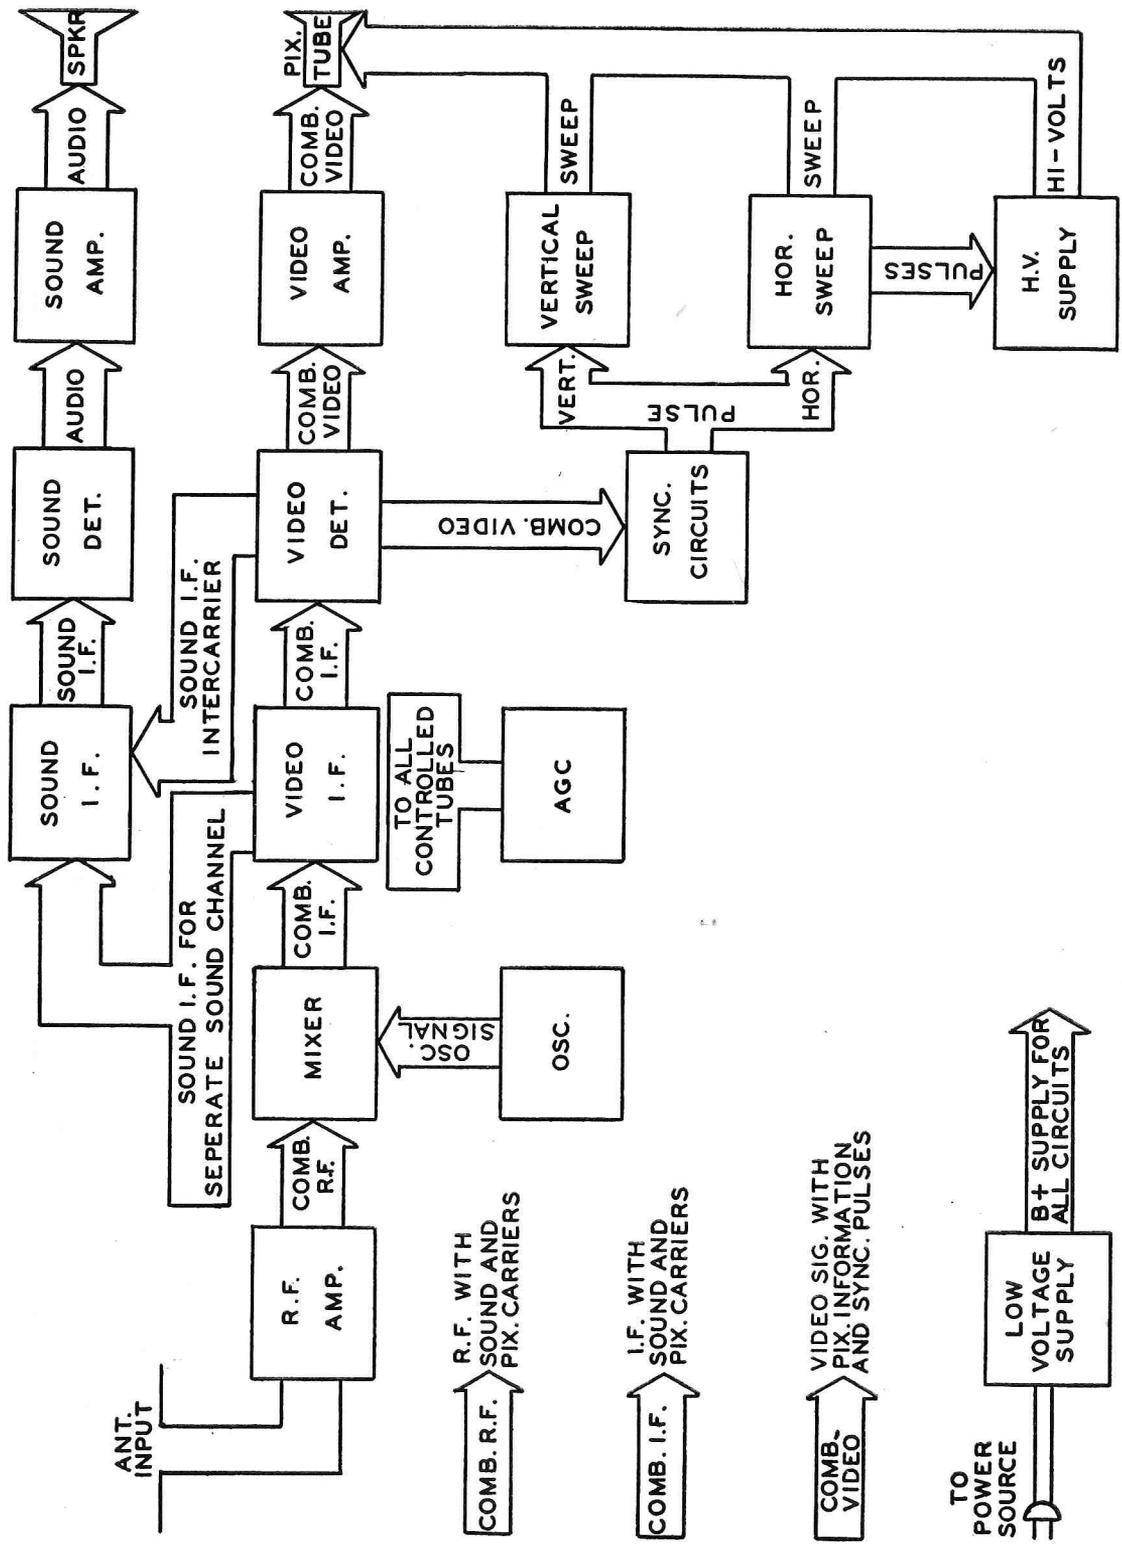

Fig. 2. Block diagram of stages common to all television receivers.
**Permanent Connections.** These are made by twisting together the leads to be joined or by wrapping the leads around the lugs so they will not fall off. A resistor which is being permanently mounted on a terminal strip is shown in Fig. 2. Note that the leads have been wrapped around the terminals. They are then soldered and the excess length of wire cut off. This joint is con-
Fig. 2. The part leads may be wrapped around the lugs as many times as you wish. Most technicians use just enough of a wrap to mechanically support the part. Any excess lead length is clipped off after soldering.
A knowledge of TV circuit action is required to spot suspicious tubes when all filaments light normally. Fig. 2 shows a block diagram indicating the direction of the signal paths between the essential stages common to all television receivers. Let us see how an understanding of Fig. 2